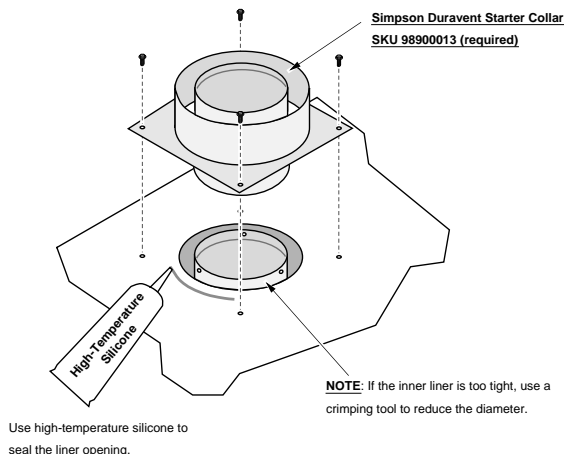

Figure 19
- Simpson Duravent chimney requires a starter collar. Attach the starter collar to the top of the fireplace with four sheet-metal screws (see Figure 19). If the inner pipe is too tight, use a crimping tool to adjust pipe diameter (see Figure 20). Seal the outer sections of pipe with high-temperature silicone.